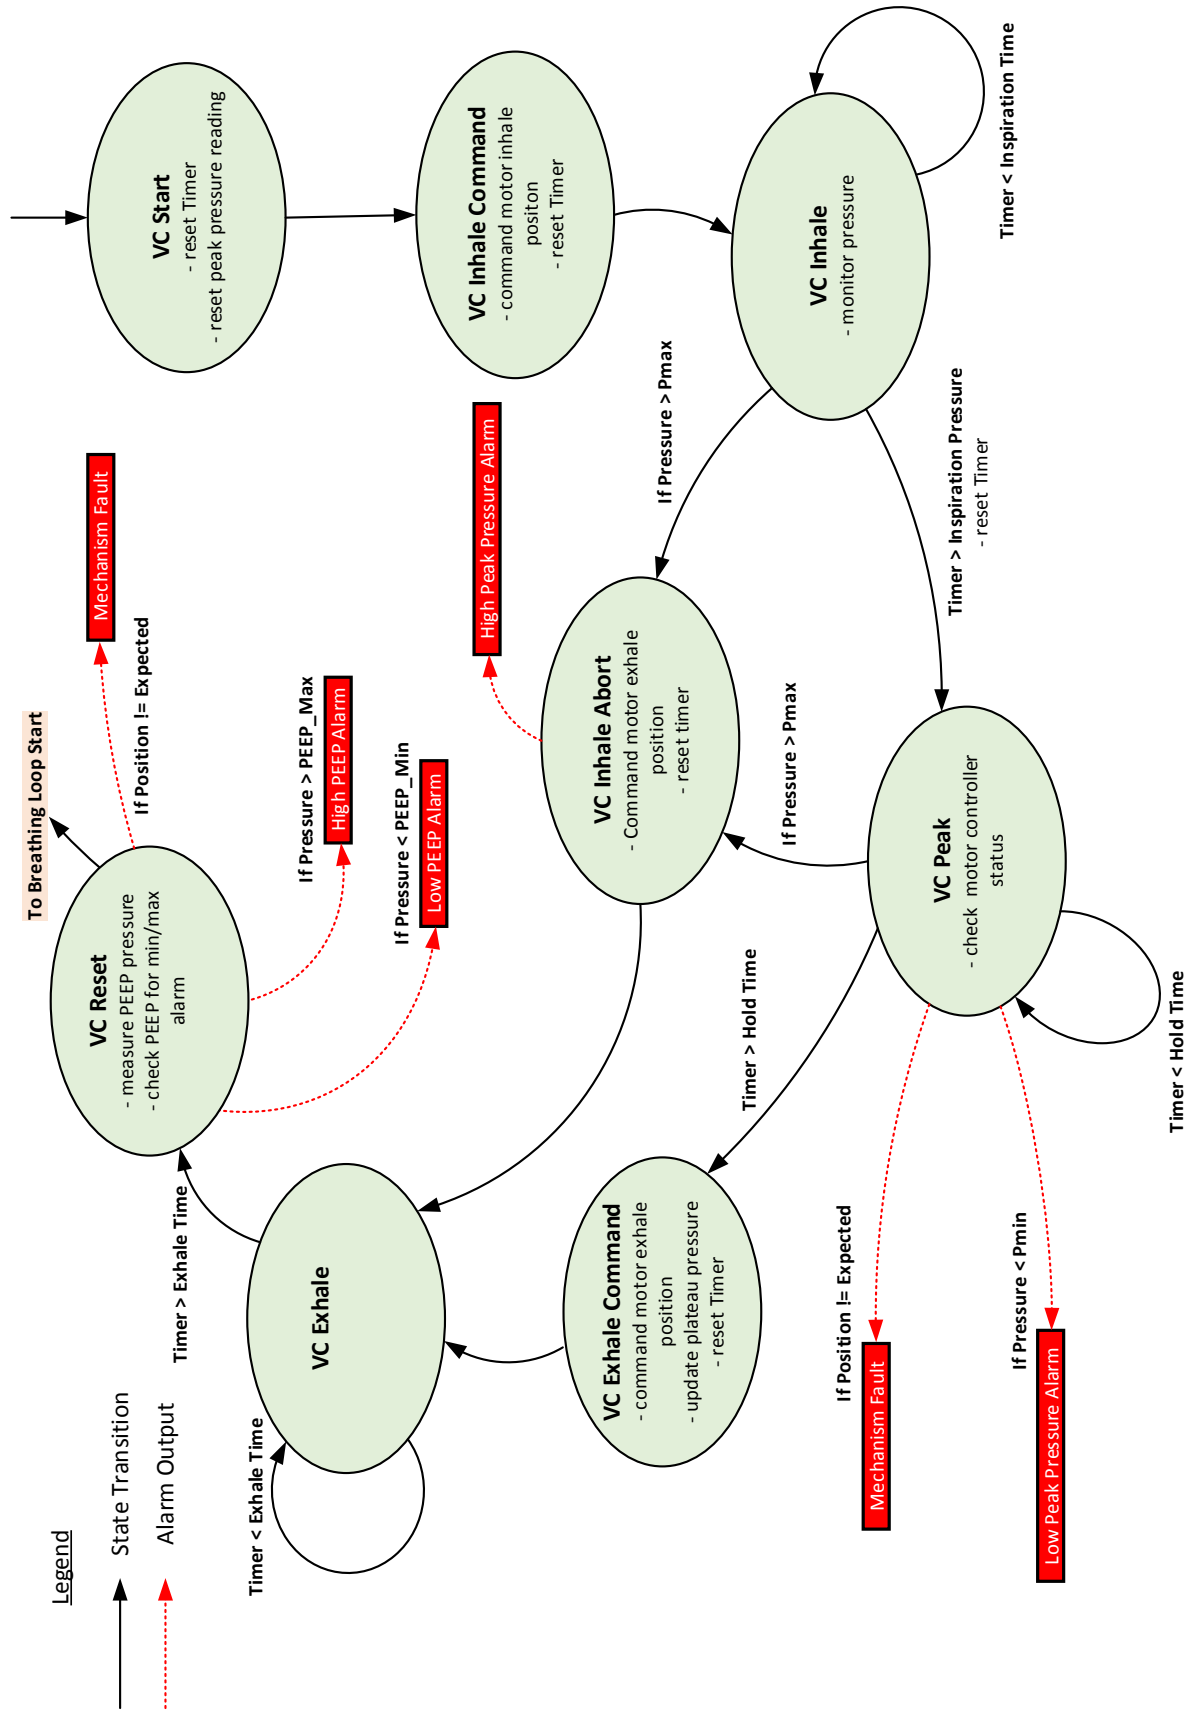

Figure 5: Volume Control Mode State Flow Diagram
4. The Volume Control Mode state flow diagram is shown in Fig. 5.